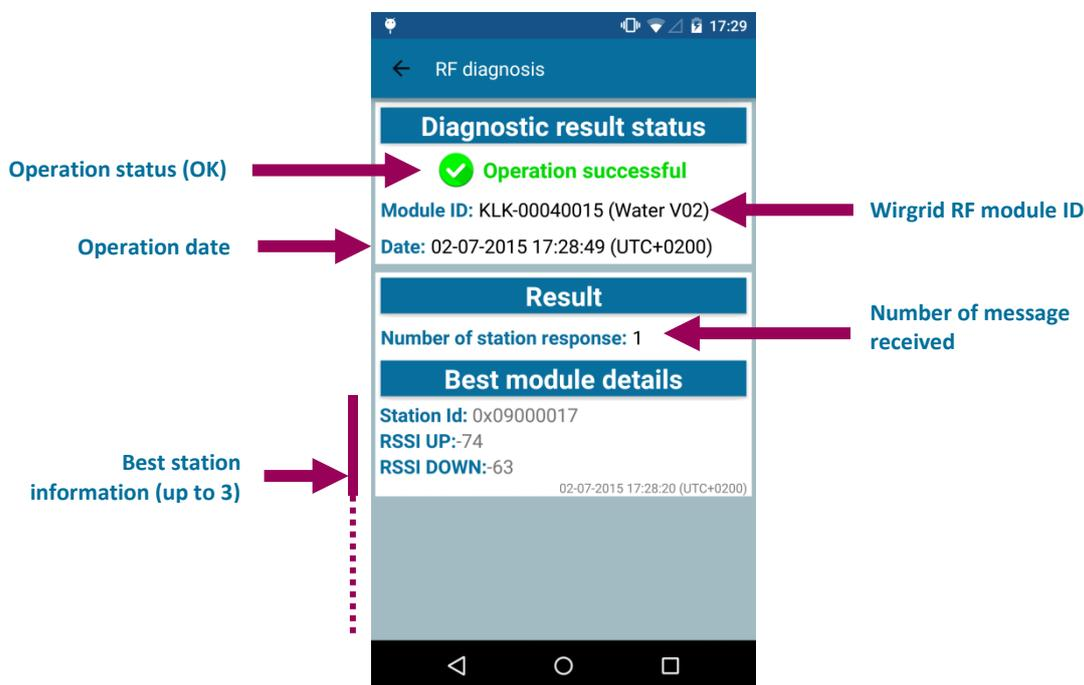

Figure 29: RF Diagnosis / retrieve results
- At the end of the operation, a new page is displayed on the screen with the operation status and the status of the received messages (see Figure 29).